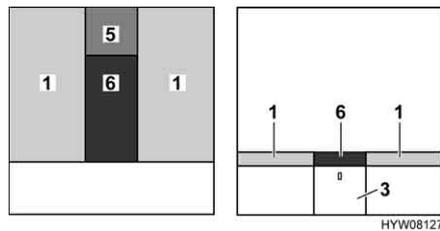

Fig. 85 After conversion
- Place the additional cushion (Fig. 85,5) on the bedside locker.
- Place the additional cushion (Fig. 85,6) between the mattresses (Fig. 85,1).